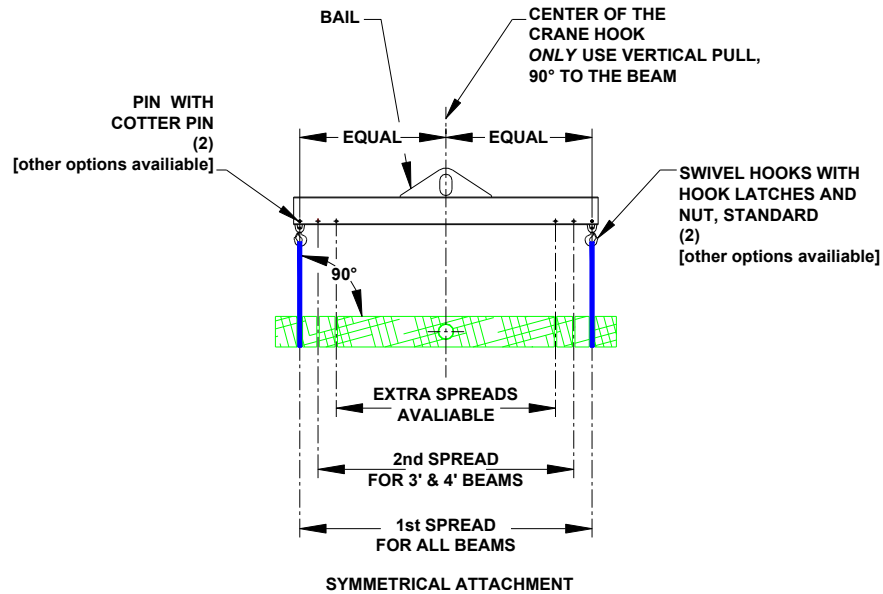

Figure 1
2. **See Figure 1**, Position the swivel hooks symmetrically.
4. **See Figure 1**, Use **ONLY** symmetrical attachment loading! Attach the load to each of the fixed swivel hooks with latches; and position the load at equal distance from the center of the bail.
5. **See Figure 1**, Use **ONLY** vertical pull (The center of the crane hook must be 90 degrees to the beam).
6. **See Figure 1**, Prevent tilting of the Model 20 Lifting Beam and the load, by positioning the load's center of gravity in-line with the center of the crane hook.
8. **See Figure 1**, the Lifting Beam is level/horizontal and the attachment is symmetrical, proper lifting.